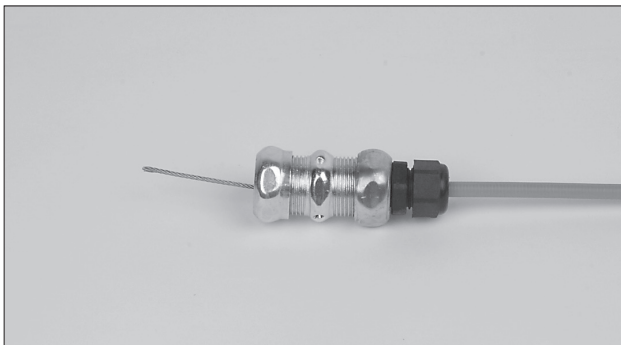

FIGURE 5-101
5. Push the flexible conduit into the strain relief until it is approximately 1/16 in. (1.6 mm) from the bottom of the flexible conduit insert, then tighten the strain relief nut onto the strain relief body. See Figure 5-101.